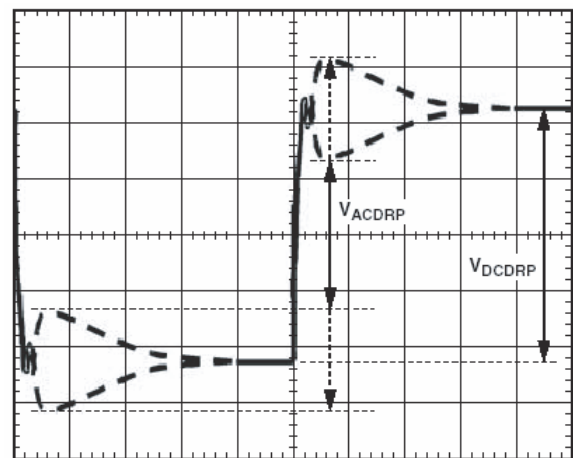
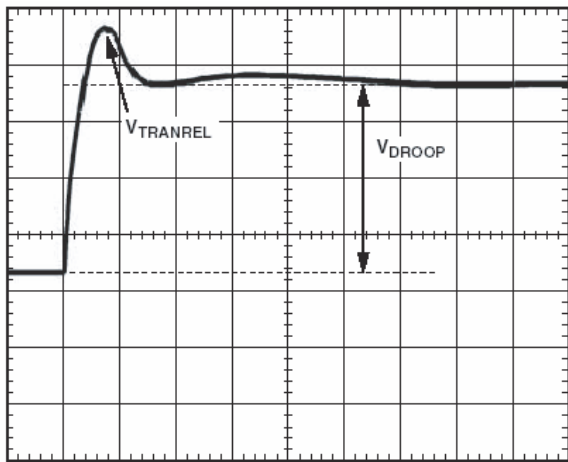

Figure 9. Transient Setting Waveform
Figure 10. Transient Setting Waveform
19. With dynamic load still set at maximum step size, expand the scope time scale to see 2µs/div to 5µs/div. You will see a waveform that may have two overshoots and one minor undershoot (see Figure 9). Here, V_{DROOP} is the final desired value.
- 21. For load release (see Figure 10), if V_{TRANREL} is larger than V_{TRAN1} (see Figure 9), you do not have enough output capacitance. You will either need more capacitance or need to make the inductor values smaller (if you change inductors, you need to start the design over using the spreadsheet and this tuning procedure).